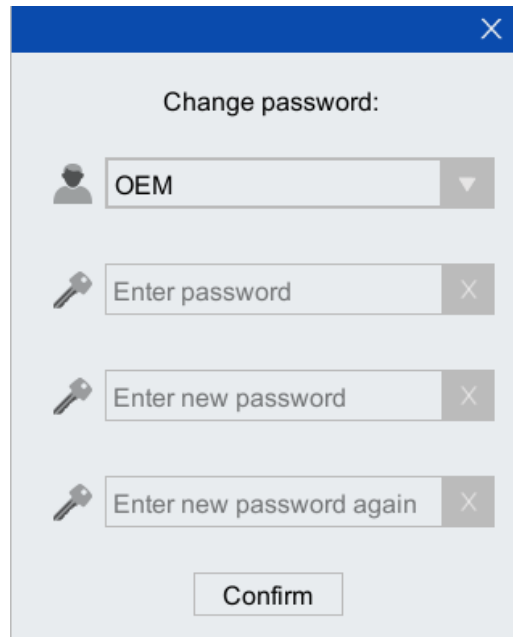

Figure 8-31 Modify password interface
Step1.On the main interface of the teach pendant, click "System > User and Password > Change Password" option, and the interface as shown in Figure 8-31 will pop up.